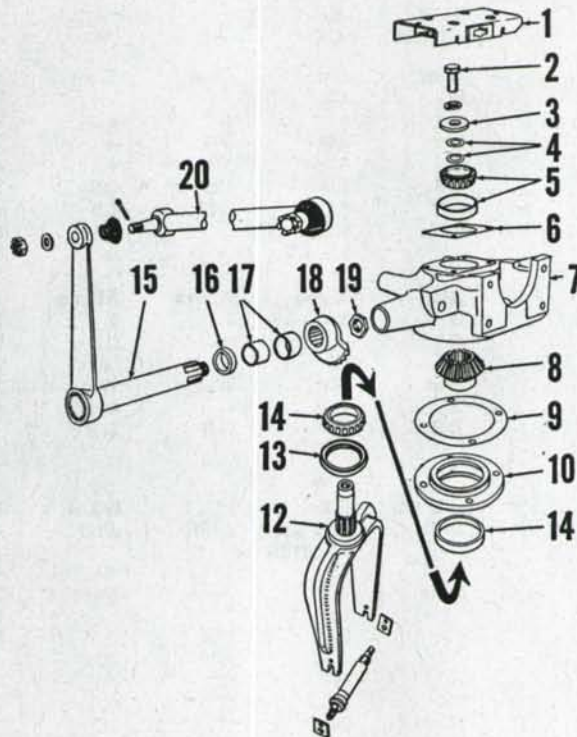

Fig. AC1—Models C and CA single wheel tricycle version front support and front steering gear assembly.
1. C-CA SINGLE FRONT WHEEL. To adjust vertical spindle bearings, vary the shims (4—Fig. AC1), located between top of shaft and bearing cone. Radiator must be removed to obtain access to shims.
3. C-CA SINGLE FRONT WHEEL. To disassemble pedestal and front gear unit, remove hood and radiator, and with tractor supported under torque tube, remove front wheel and horizontal spindle assembly from fork. Remove cap screw (2—Fig. AC1), washer (3), and shims (4) from top of vertical spindle shaft (12). Remove cap screws retaining bearing retainer (10) to front support (7), and bump shaft down through upper bearing cone and front support. Withdraw shaft, gear and bearing retainer assembly as a unit from bottom of front support. The need and the procedure for further disassembly will be determined by an inspection of the parts and by reference to Fig. AC1. Presized bushings (17) are supplied for steering arm shaft, and if carefully installed require no sizing after installation.